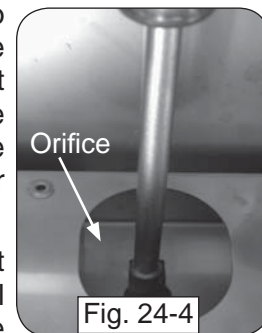

Fig. 24-4
3. Use a 3/8" hex nut driver to remove the exposed orifice (Fig. 24-4) and replace it with the correct orifice for the new gas. (See Table 1 at the beginning of this document for orifice sizes.)